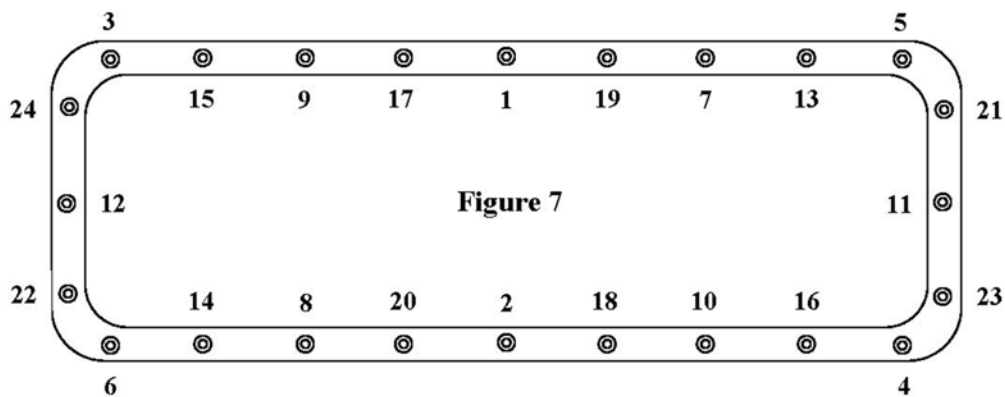

Figure 7
6. Install the screws following the tightening sequence provided in figure 7.
8. When finally drawing down all the screws tight, follow the tightening sequence provided in Figure 7. ***DO NOT USE POWERTOOLS TO TIGHTEN THE SCREWS***